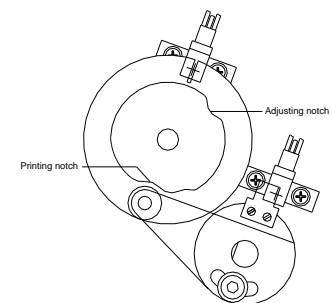

Figure 24
The sketch (see Figure 24) shows from behind the shaft of ribbon save motor (H) with pressure curve (C) and disc (B). The bearing ring (D) with the attached sole plate (E) is underneath.
4. Loosen the hex socket head screw (F) about one turn until the sole plate (E) with the attached ball bearing is freely mobile.
6. Press the sole plate (E) with the ball bearing (G) in the adjusting notch of the pressure curve. Take care of not to have too much play. Fasten the hex socket head screw (F).
10. Turn by hand the motor shaft with the pressure curve and disk from the left to the right until a slight resistance can be noticed. If the slot in the disk can be moved slightly to the right and to the left out of the photocell (A), then the pressure curve is adjusted correctly.